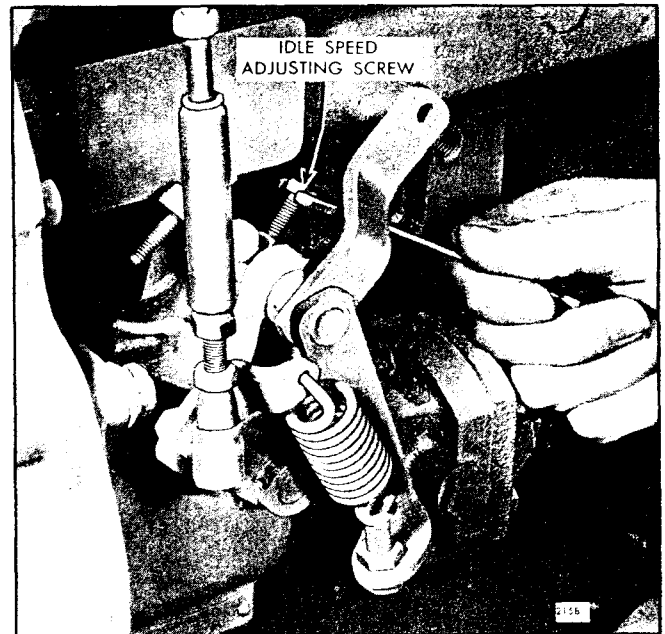

Fig. 6 - Adjusting Engine Idle Speed
5. Back out the idle speed adjusting screw (Fig. 6).
screw, as shown in Fig. 6, to obtain the desired idle speed.